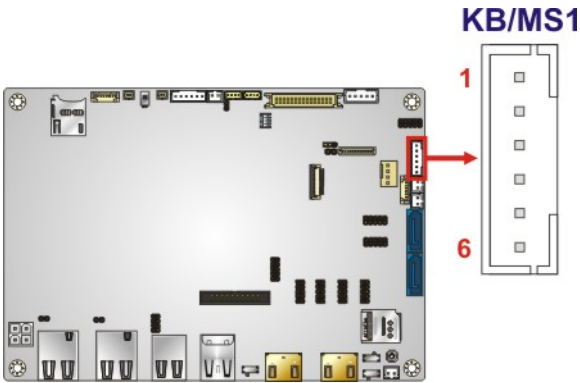

Figure 3-15: Keyboard and Mouse Connector Location
- CN Location:** See Figure 3-15